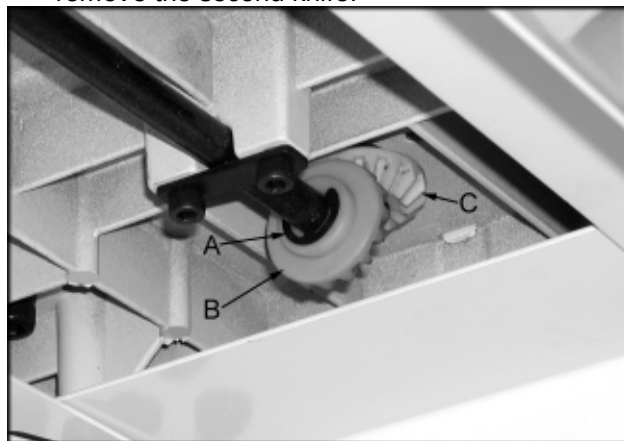

Fig. 12
2. Remove the snap ring (A, Fig. 12).
3. Disengage the horizontal shaft gear (B, Fig. 12) from the vertical shaft gear (C, Fig. 12). **When disengaging the gears, do not rotate the horizontal shaft gear. This will disturb the alignment of the cutter and make the height scale inaccurate.**